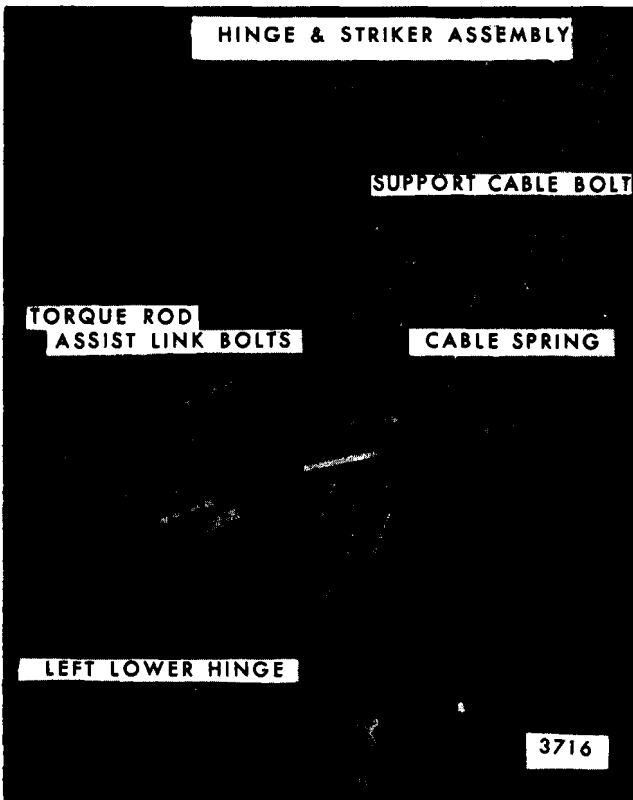

Fig. 9-52-Dual Acting Tail Gate Left Upper and Lower Hinge and Support Cable Attachment
5. Remove left lower hinge to body attaching bolts (Figure 9-52), then, remove hinge from body.
1. With the tail gate properly supported in an open (gate position) position, remove hinge and striker attaching screws (Figure 9-52) and remove assembly from left body pillar.
NOTE: The support cable spring, shown in Figure 9-52, must be reinstalled in depicted position to insure proper movement of cable during gate operation.
1. Open tail gate sufficiently (partially open) as a gate to achieve a neutral torque rod position or until tension on torque rod has been relieved. With torque rod in a neutral position, remove torque rod assist link retainer to body attaching bolts (Figure 9-52).
2. Support tail gate in a full-open gate position and remove support cable to left upper hinge and striker assembly attaching bolt (Figure 9-52)
4. WITH THE AID OF A HELPER, remove left lower hinge to body attaching bolts (Figure 9-52).